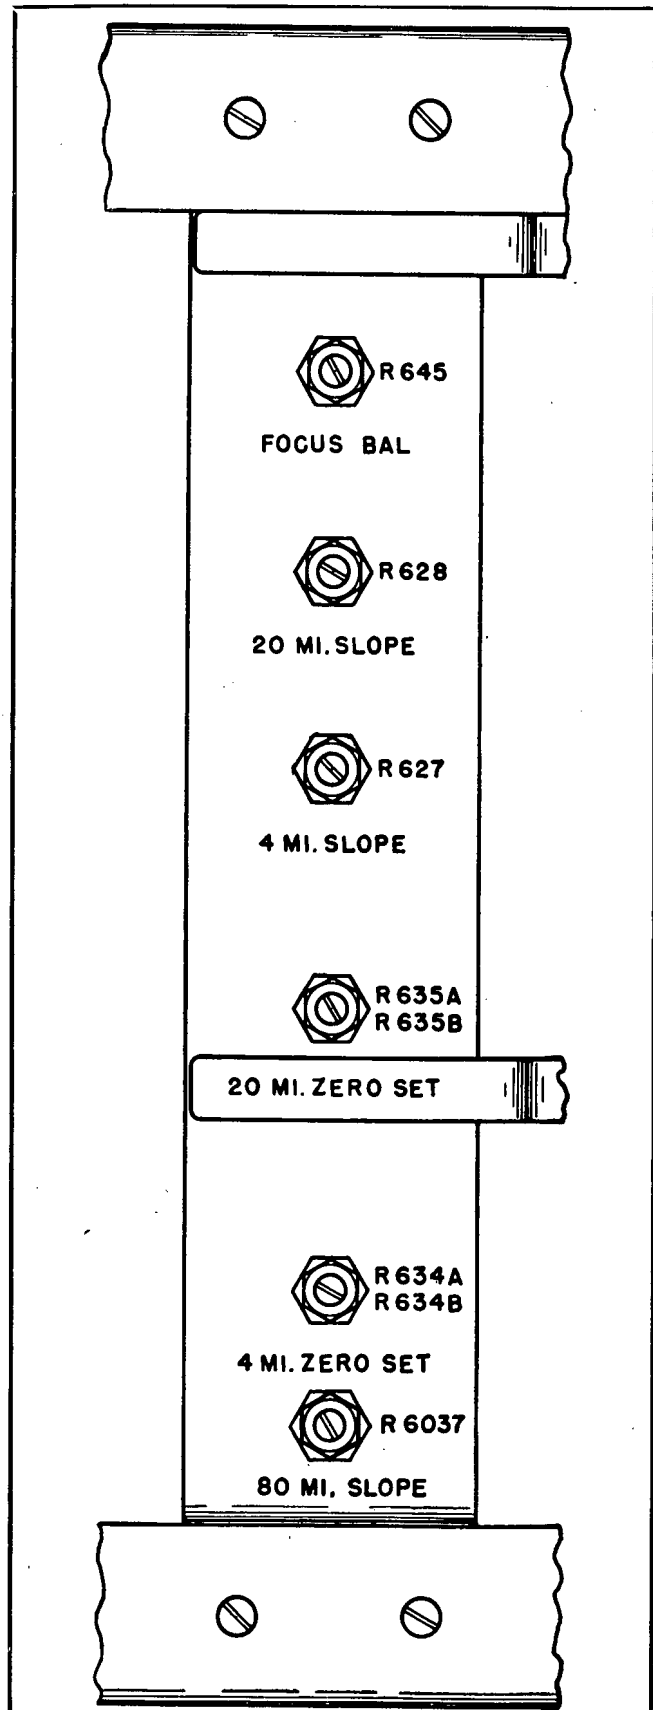
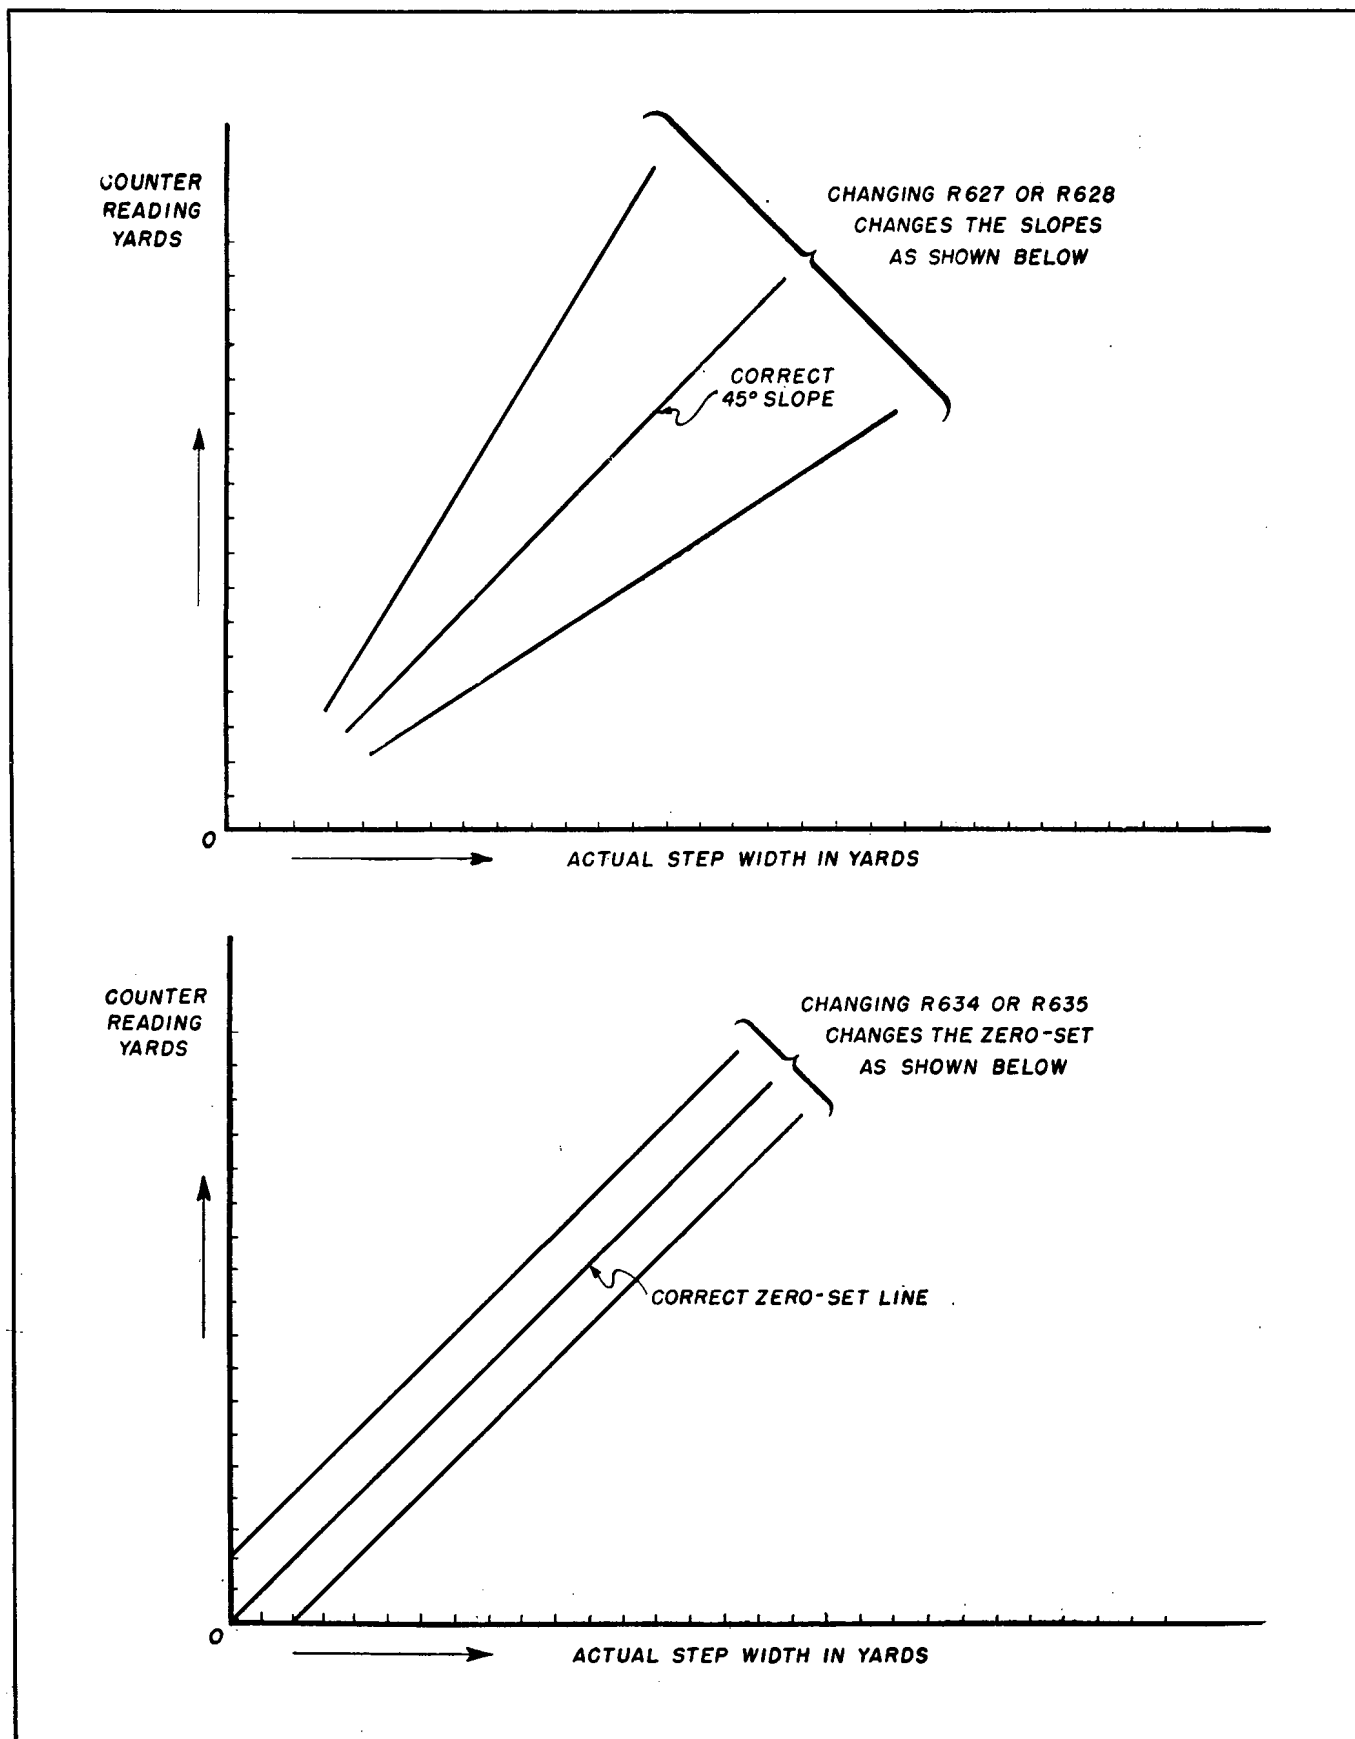

Figure 7-108. Range Scope Controls on Left Side of Chassis
Figure 7-109. Plot of Range vs. Counter Readings
(2) Turn off all video voltages by turning the I.F. GAIN to 0. This control is on the Console Receiver. This will leave a single line on the face of the tube. Turn the MARKERS switch to the ON position, and allow the markers to remain on the tube during the adjustment period.
(3) Adjust the FOCUS BAL potentiometer, R-645, and the FOCUS control on the front panel alternately until the sweep line and marker pips are *both* as sharp as possible. The FOCUS BAL control is on the left-hand side of the chassis and is shown in Fig. 7-108. It is possible to regulate these controls so that the sweep line can be sharpened while the markers are thickened. Ideal adjustment is when *both* the horizontal sweep line and the marker indications are balanced and *both* are as thin as possible.
(2) Adjust the calibrator for proper output and turn on the MARKERS switch on the front panel. Place the RANGE SELECTOR switch on the 4-mile range and adjust the calibrator phasing control until one of the pips lines up exactly with the range markers nearest to the start of the sweep line. Then turn off the MARKERS. If only the markers are used for calibration, the MARKERS switch should be left on.
(3) Pull out the RANGE STEP control so that the vertical step appears on the sweep line of the Range Scope. Adjust this control until the step is as far to the left of the tube as possible.
(4) Rotate the RANGE STEP handle until the range step just touches the left-hand marker, or range calibrator pip. Then, record the range of the pip and the reading of the range counter. The range counter reading should be the same as the calibrator or marker range, ± 100 yards. Continue aligning the range step with each of the calibrator or marker pips until the range step reaches the right-hand end of the sweep. At no point should the range as read on the counters be more than ± 100 yards from the range read on the calibrator or marker pips. The markers should be 2000 yards apart on the 4-mile range, 10,000 yards apart on the 20-mile range and 20 miles apart on the 80-mile range. If these readings should be plotted, as shown in Fig. 7-109, a straight line will appear. If the line is not straight, the helipot R-632 should be replaced. If the line is straight, it should be at a 45 degree angle with the two coordinates of the graph.
(5) If the line is straight, but not a 45 degree angle, the SLOPE control should be adjusted. For the 4-mile range, this control is R-627, for the 20-mile range, it is R-628 and for the 80-mile range it is R-6037. These controls are shown in Fig. 7-108. When the readings at the various calibration points do not vary more than ± 100 yards, the slope adjustment is properly set.
(6) Repeat the above adjustment for each of the other ranges.
(7) The adjustment just described has set the linearity of the phantastron circuit. It is now necessary to adjust it so that the mileage read from the counters will start at zero. This can be done in two ways. The first, and more accurate way, is to plot the various readings taken from the calibrator or marker pips and from the counters, in a graph similar to Fig. 7-109. When the phantastron is accurately zeroed, the
line, if lengthened (it is not possible to actually reduce the phantastron delay to zero) will extend through the origin of the coordinates of the graph. If this does not happen on the first set of readings, the ZERO SET control R-634 for the 4-mile range and R-635 for the 20-mile range, should be regulated and another set of readings plotted. These controls are shown in Fig. 7-108. The 20 and 80-mile ranges are zeroed with the same control. The second method is to line up the range step with one of the range markers. The ZERO SET controls should then be adjusted until the range on the counters is the same as the range indicated by the range marker. This provides approximate results if the range markers are accurately calibrated and the Slope Control is accurately adjusted.